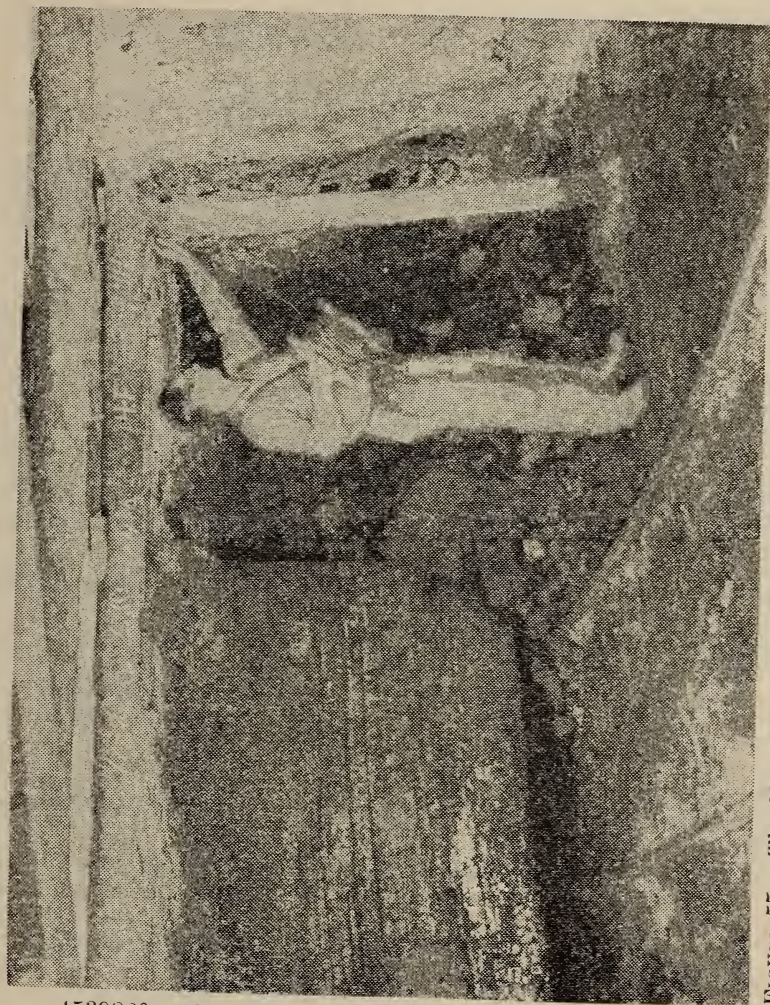

FIGURE 55.—The blasting cable is suspended on timbers to avoid picking up a stray current that would cause a premature explosion.
A. Care should be taken to keep it from touching rail, wire, pipe, or bottom, which may carry stray electric currents. The safest practice is to hang the cable on timbers. (See fig. 55.)